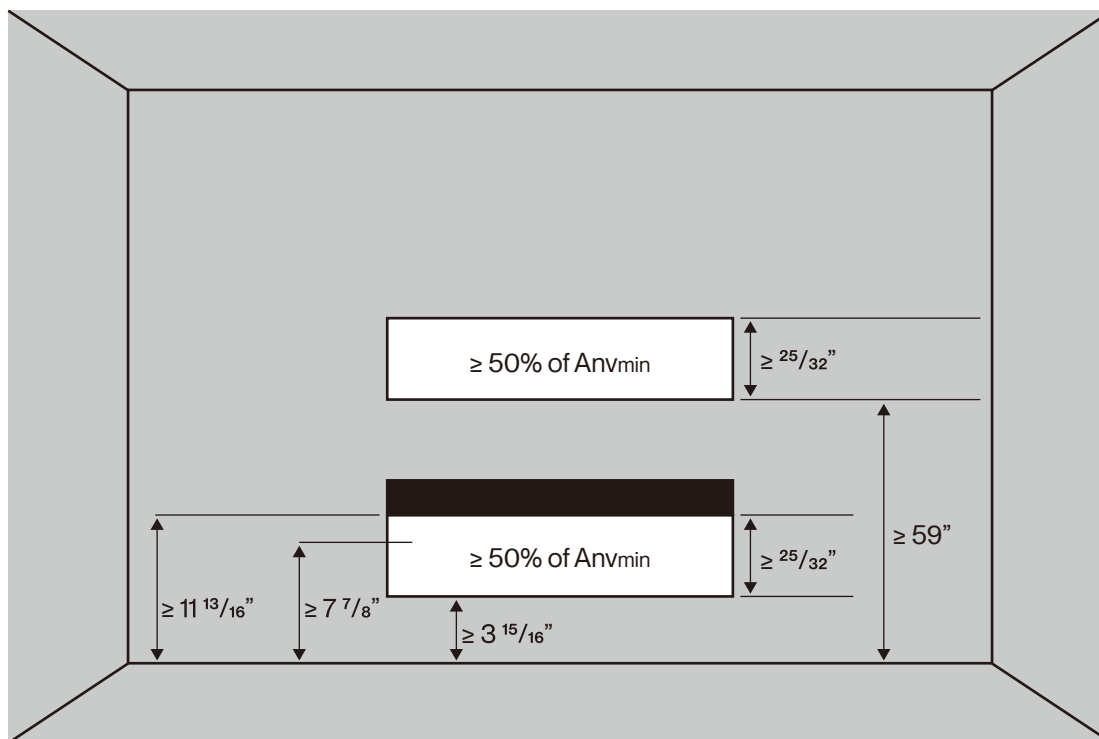

Fig 1-1 Opening Requirement for Connected Rooms
- The space considered shall be any space which contains refrigerant-containing parts or into which refrigerant could be released. The floor area (A) of the smallest, enclosed occupied space shall be used in the determination of refrigerant.
- For determination of floor area (A) when used to calculate the refrigerant charge limit, the following shall apply:
- The floor area (A) shall be defined as the room area enclosed by the projection to the base of the walls, partitions and doors of the space in which the appliance is installed.
- The area of the connected rooms, on the same floor, connected by permanent opening in the walls and / or doors between occupied space, including gaps between the wall and the floor can be considered a single room when determining compliance to  $A_{min}$ , provided all of the following conditions are met as [Fig 1-1].